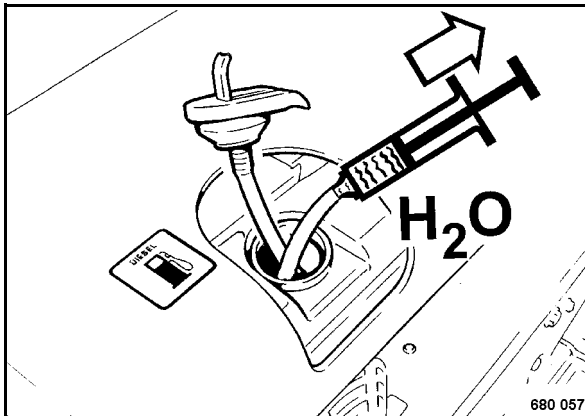

Fig. 73
- Open the quick lock on the tank (Fig. 73).